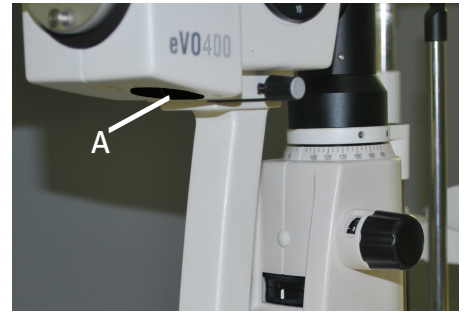

Figure 12
1. Remove the Check Nut from the Inlet Tube for CCD Camera shown as (A)., Refer Figure. 12.